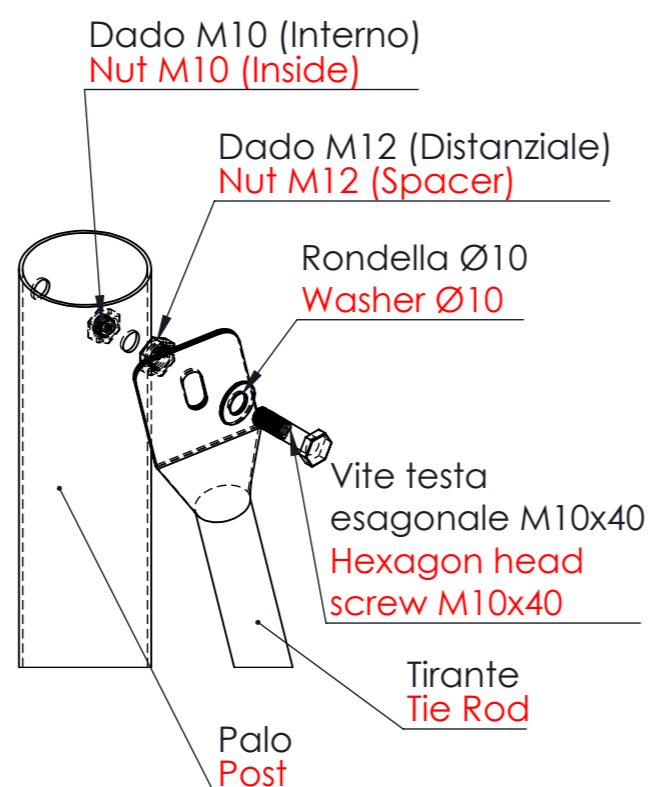

FIG. 2
2. Secure the tie rods to the upper end of the post: insert an M10 nut into the post (remove the post cap first), place an M12 nut on the outside of the post as spacer and tighten the M10x40 hexagon head screw with a washer between the tie rod and the screw as shown in Figure 2, without tightening it fully.
Raise and lower the movable part of the ratchet to lock the strap and tension it accordingly (Figures 2 and 3).